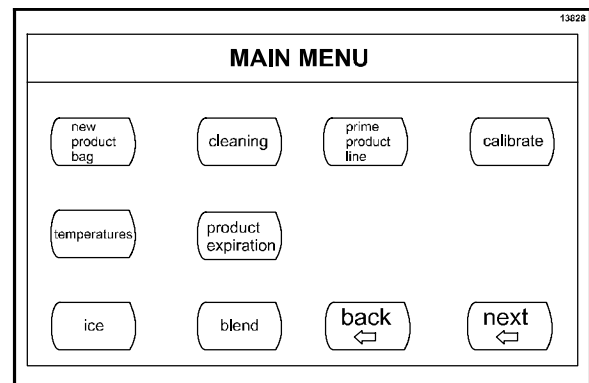

Figure 6
- Install a blender pitcher in the dispensing area and place the cover on the ice hopper. Press the ICE key until all remaining ice has dispensed into the blender pitcher. (See Figure 6.)